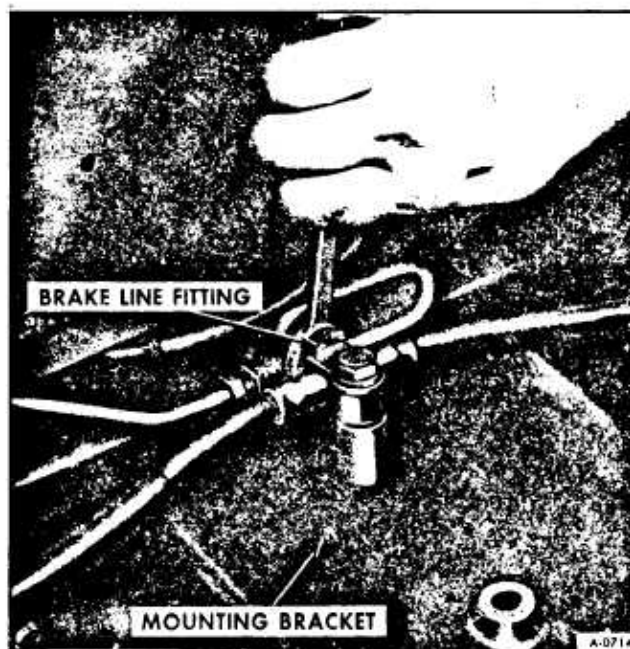

Figure 10—Disconnecting Brake Line
6. Referring to Figure 10, disconnect brake line at center mounting bracket and at each brake backing plate. Remove brake lines from control arms by unbolting all mounting points.